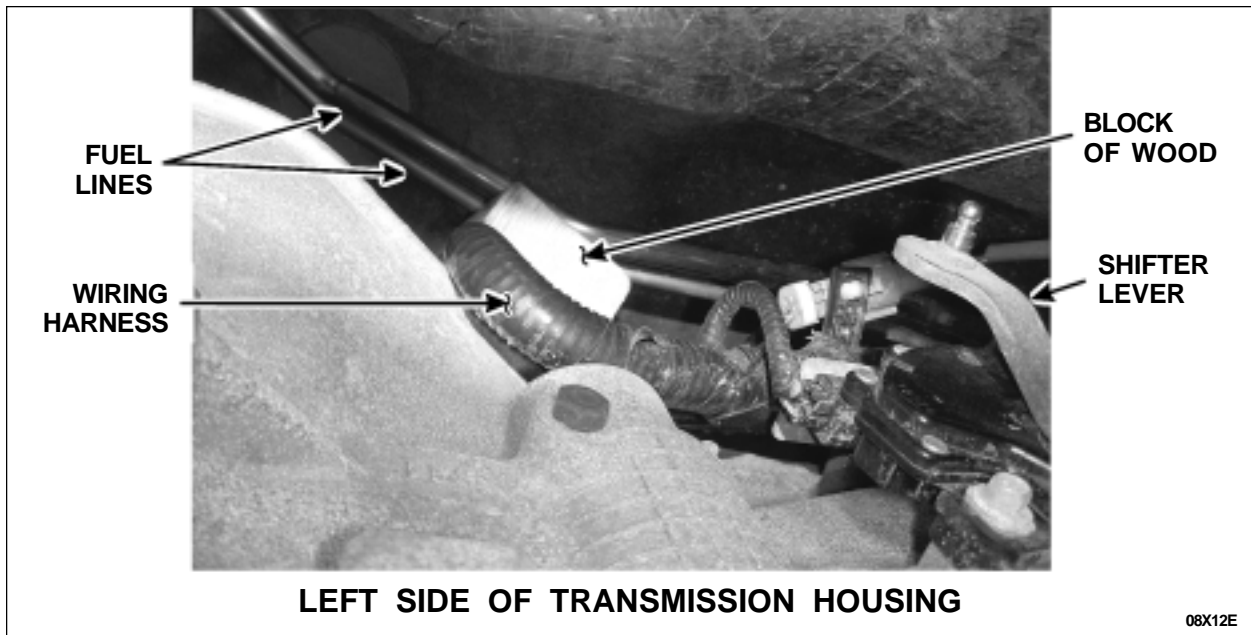

FIGURE 5
6. To improve access to the brake booster vacuum hose, position the fuel lines and transmission wiring harness on top of the transmission. Hold the fuel lines in the raised position by using a block of wood or equivalent. See Figure 5.